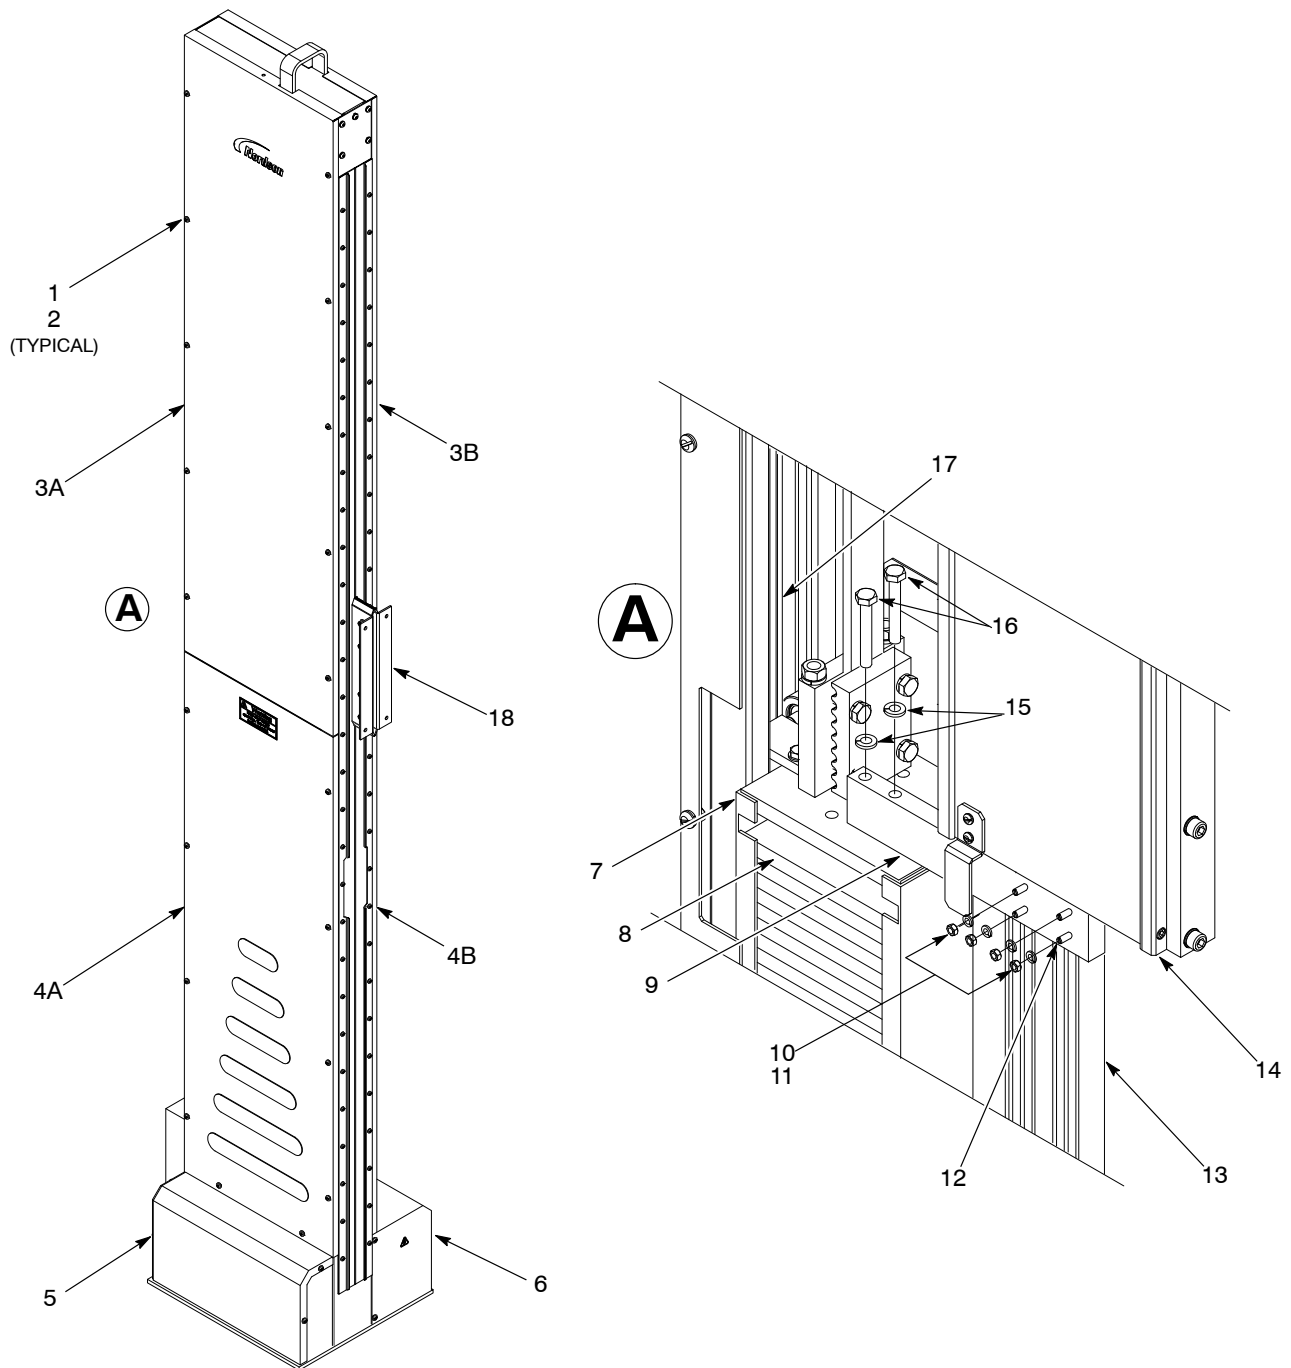
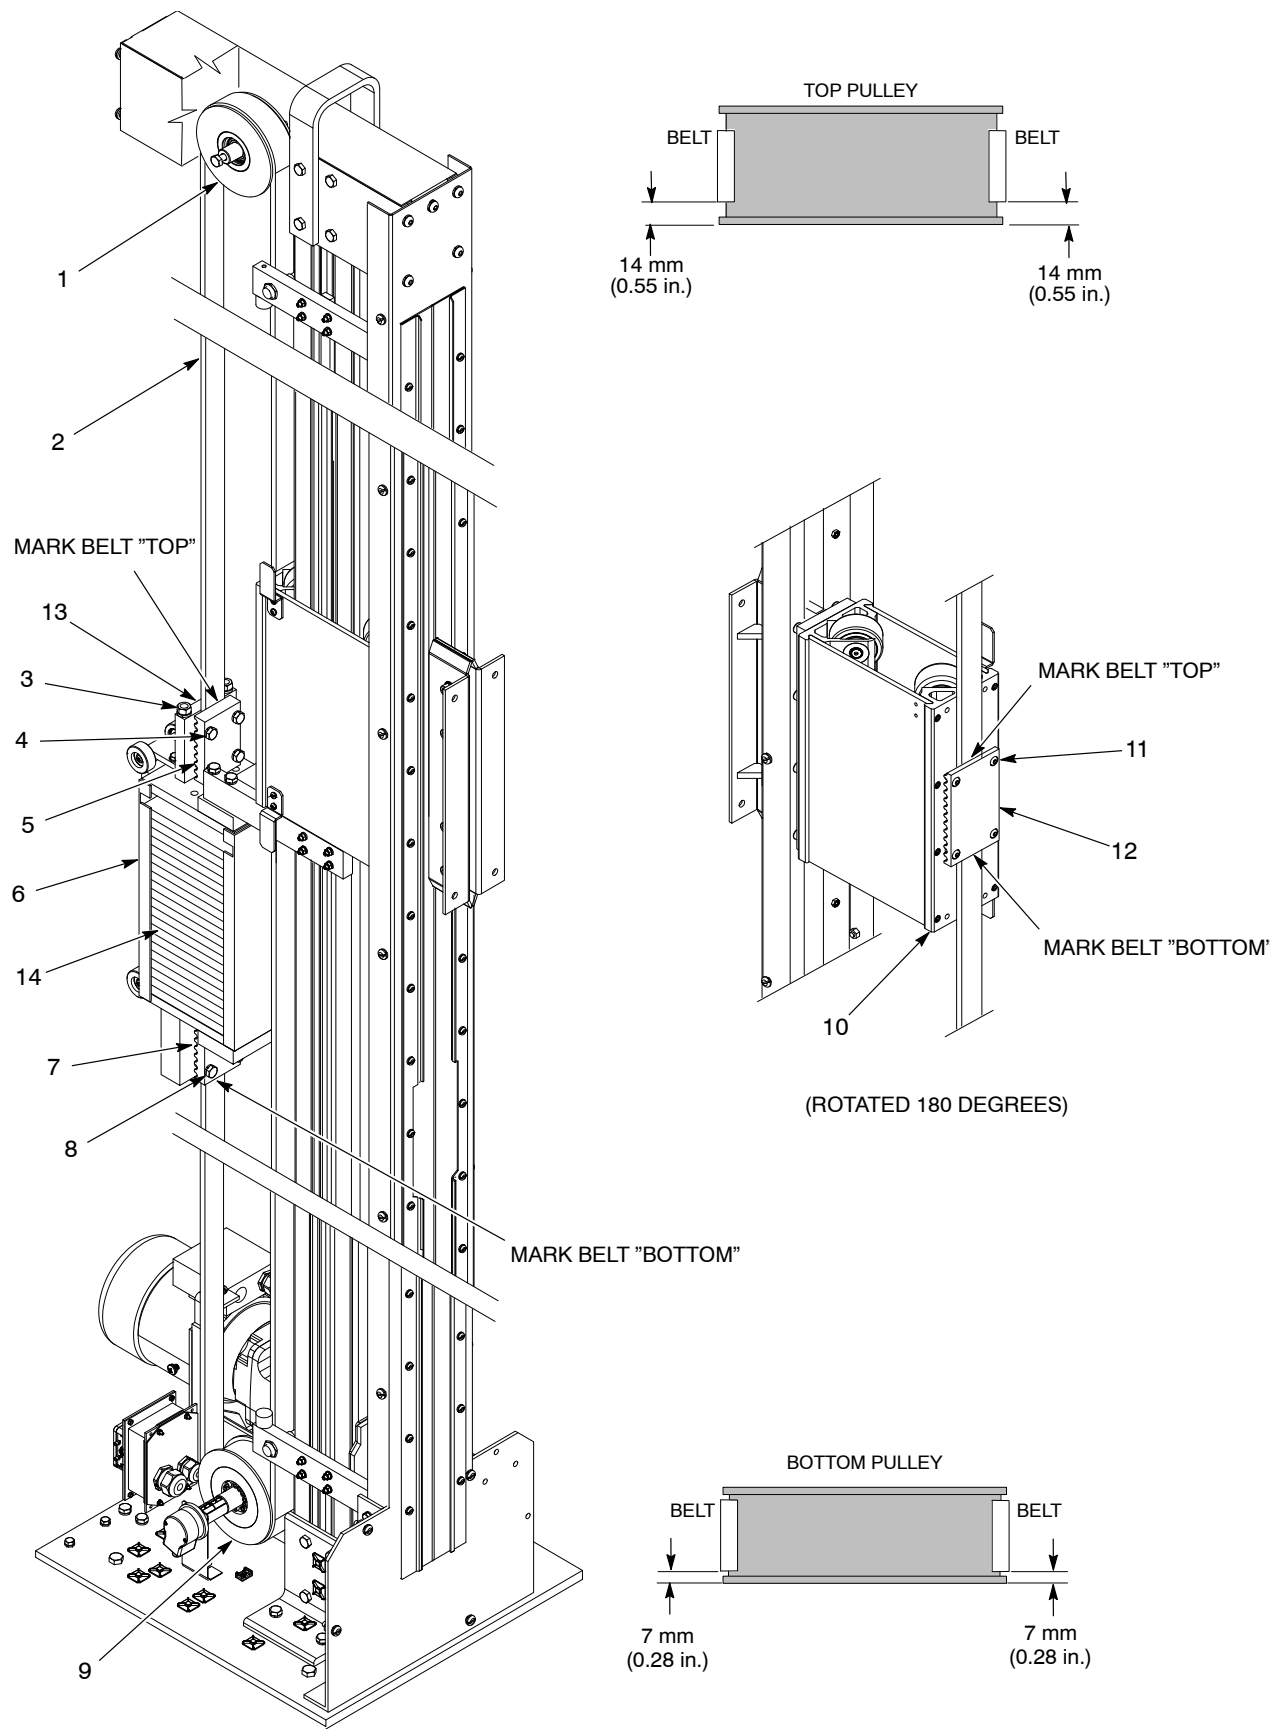
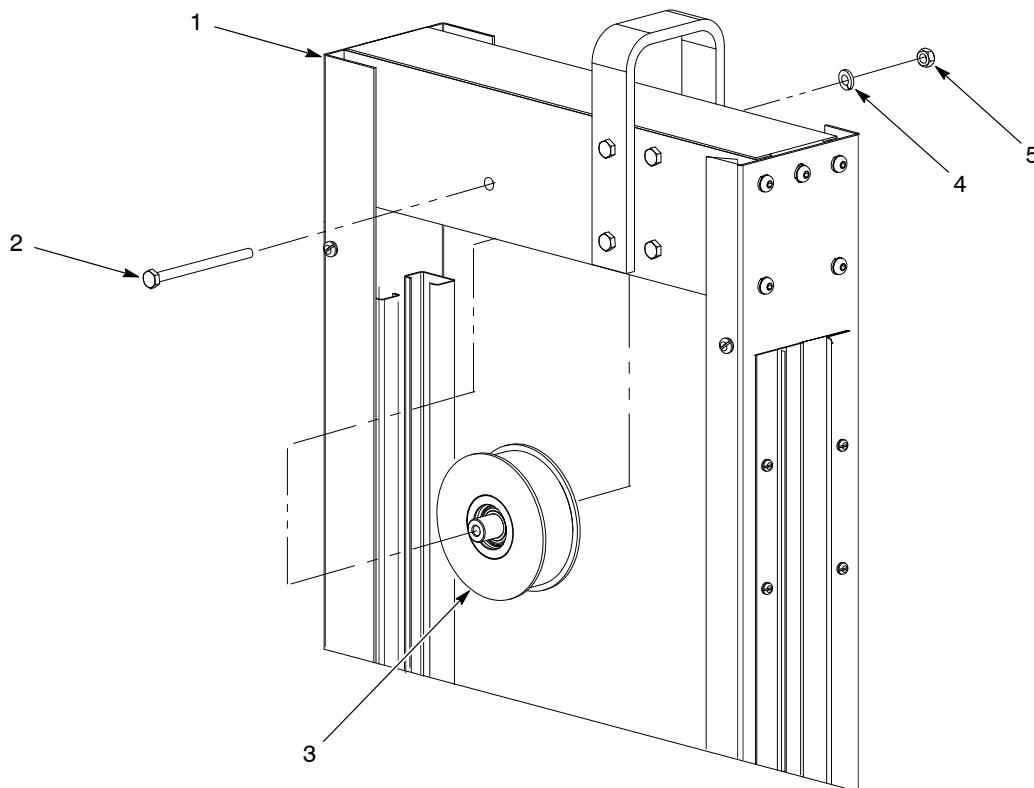
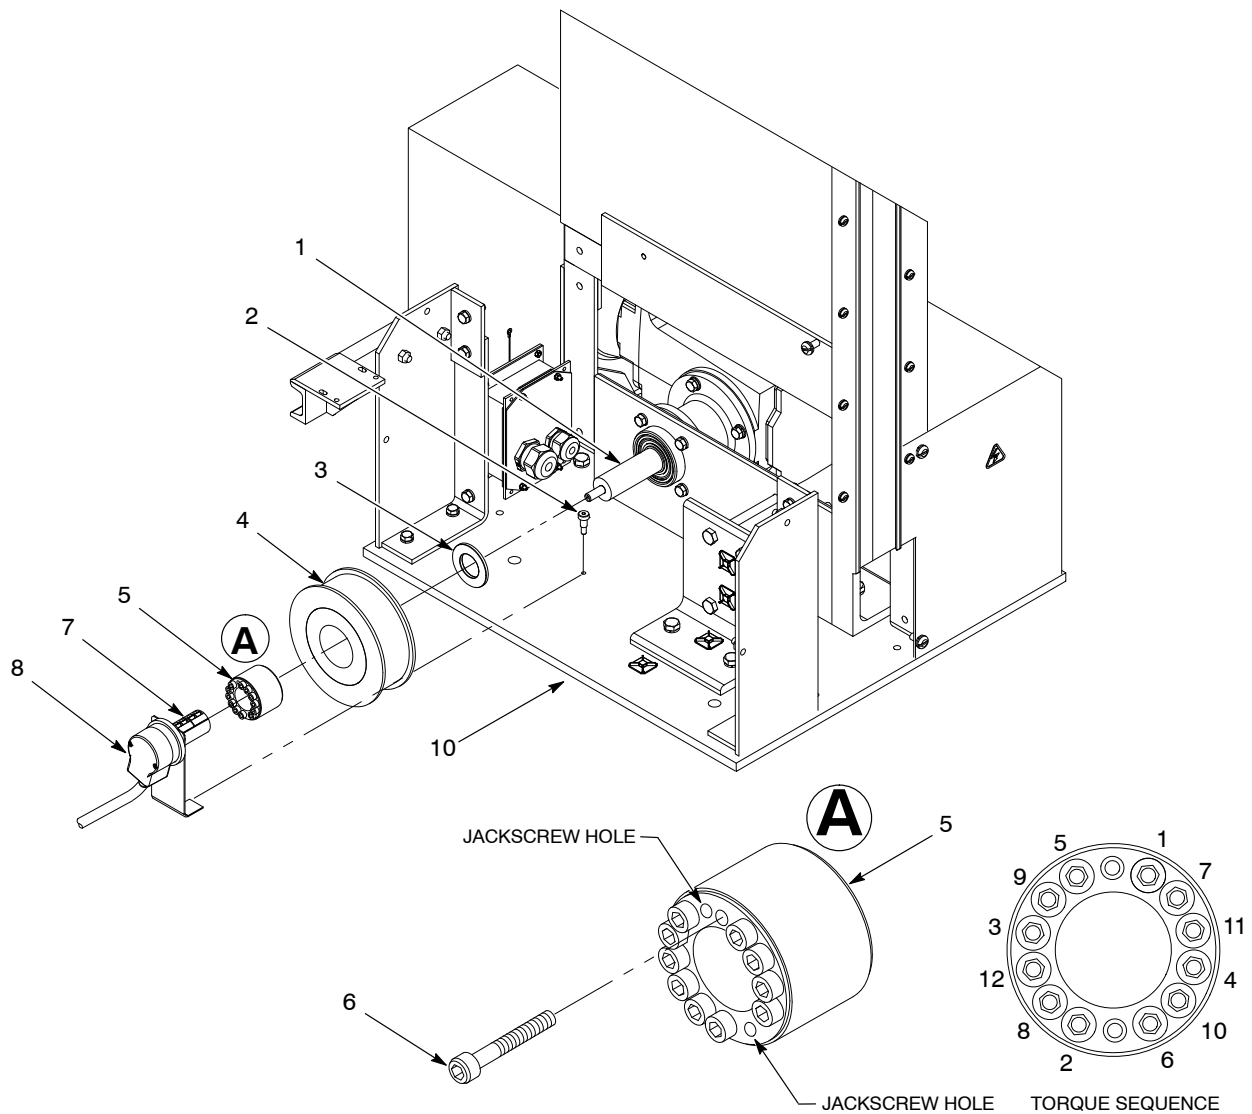

Figure 8 Securing the Gun Carriage and Counterweight Basket
Figure 9 Replacing the Belt
Figure 11 Replacing the Top Pulley
Figure 12 Replacing the Bottom Pulley
2. See Figure 8. Remove the screws (1) and washers (2) securing the side access panels (3A, 4A) on the encoder side of the reciprocator, and the encoder cover (5). If repairing the top pulley or gun carriage rollers, remove the access panels (3B, 4B) on the motor side (6).
- a. Manually move the gun carriage (14) until the bottom surface is positioned slightly above the counterweight basket (7).
- b. Install the T-bolts (12) through the back of the lock arm (9). Install the lock arm to the counterweight basket (7) using the lock washers (15) and screws (16). Tighten the screws securely.
- c. Manually move the gun carriage (14) downward until it makes contact with the top of the lock arm (9).
- d. Insert the T-bolts (12) into the gun carriage track (13). Install the lock washers (11) and nuts (10) onto the T-bolts. Tighten the nuts securely.
4. Mark the position of the gun carriage on the gun carriage track (13).
5. Mark the position of the counterweight basket onto the counterweight basket track (17).
6. Remove the guns and the gun mount from the gun mounting plate (18).
7. Record the number of counterweights (8) and remove them from the counterweight basket (7).
2. See Figure 9. Mark the belt as follows:
- a. Draw a line on the upper belt retainer (5) and mark the belt TOP.
- b. Draw a line on the lower belt retainer (7) and mark the belt BOTTOM.
- c. Draw two lines on the top and bottom of the gun carriage retainer clamp (12) and mark the belt TOP and BOTTOM.
3. Loosen the tension nuts (3) on top of the pulley belt retainer (13).
4. Loosen the screws (11) securing the belt-clamp retainer (12) to the gun carriage (10).
- a. Loosen the screws (8) securing the belt (2) to the lower belt retainer (7).
- b. Loosen the screws (4) securing the belt to the upper belt retainer (5).
- c. Remove the belt (2) from the belt retainers.
6. Remove the belt (2) from the pulleys (1, 9). Remove the belt from between the gun carriage (10) and the carriage belt-clamp retainer (12).
2. See Figure 9. Perform the following:
- a. Insert the belt (2) into the bottom counterweight basket belt retainer (7).
- b. Make sure that the belt is centered side-to-side and engages the 8 teeth in the belt retainer. Make sure that the belt does extend above the top edge of the bottom belt retainer. Tighten the screws (4) to 20 N•m (180 in.-lb).
3. Route the belt (2) around the bottom pulley (9), between the gun carriage (10) and the counterweight carriage belt retainer (12), and around the top pulley (1).
- a. Loosen the tension nuts (3) on top of the counterweight basket (6) until they are even with the top of the threaded rods.
- b. Insert the belt (2) into the top counterweight basket belt retainer (5).
- c. Make sure that the belt (2) is centered side-to-side and engages the 8 teeth in the belt retainer (5). Make sure that the belt does not extend below the bottom edge of the belt retainer. Tighten the screws (4) to 20 N•m (180 in.-lb).
- d. Make sure that the belt is centered side-to-side on the top and bottom pulleys as shown in Figure 9. The belt is centered when the distance from the side of the pulley to the edge of the belt is the same.
6. Make sure that the belt is centered side-to-side in the belt retainer (12) on the back of the gun carriage (10). Tighten the belt clamp retaining screws (11) to 14 N•m (120 in.-lb).
7. See Figure 8. Remove the nuts (10) and lock washers (11) from the T-bolts (12).
8. Remove the screws (16) and washers (15) securing the lock arm (9) to the counterweight basket (7).